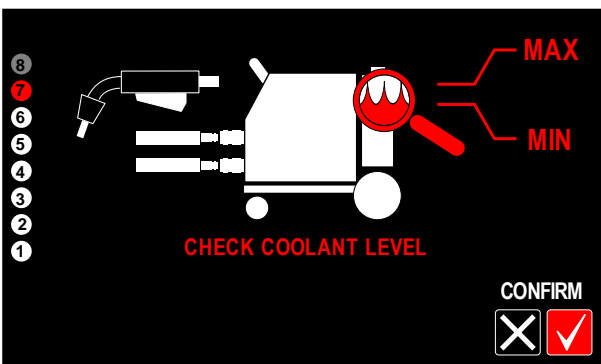

Figure 21
- Check the coolant level and add if required fill in coolant to reach level between minimum and maximum which is present on front label **COOL ARC® 26** - (Figure 21).